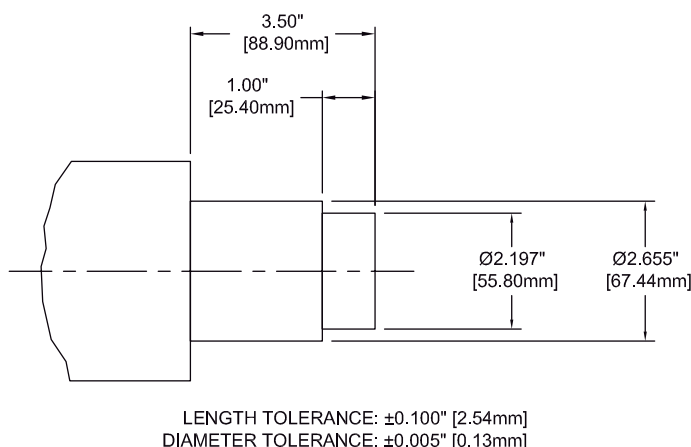

Figure 12
- 4.7.7 Should the bushings (26, 27, 28) require replacement, fabricate a tool as shown in Figure 12 to remove the bushings.